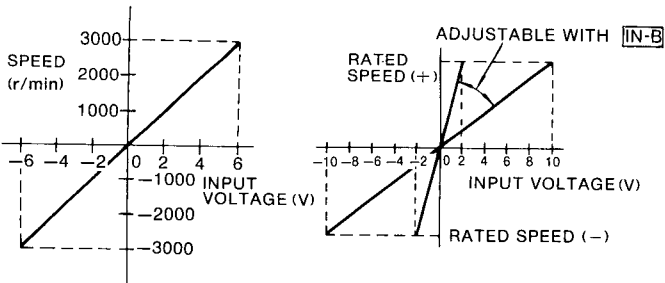
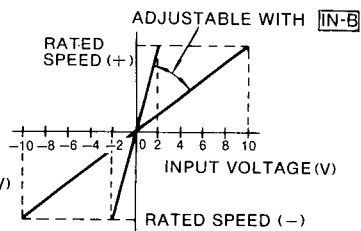

Fig. 4.8 Speed-Input Voltage Characteristics
Fig. 4.9 Speed-Input Voltage Characteristics when Auxiliary Input Terminals 1CN-⑭ and ⑮ are used
Fig.4.8 shows motor speed and input voltage curve when speed reference input terminals 1CN-⑫ and ⑬ are used. With auxiliary input terminals, 1CN-⑭ and ⑮, motor speed can be set to the rating by adjusting [IN-B] potentiometer as long as input voltage is within  $\pm 2V$  to  $\pm 10V$ . See Fig. 4.9.